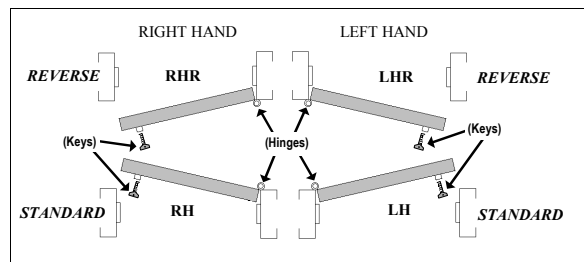

Fig. 2: Cross Section Top View -- Door Hand
2. With the key always on the outside, the door *hand* is generally determined by the location of the hinges--hinges are either inside or outside. See Fig. 2.